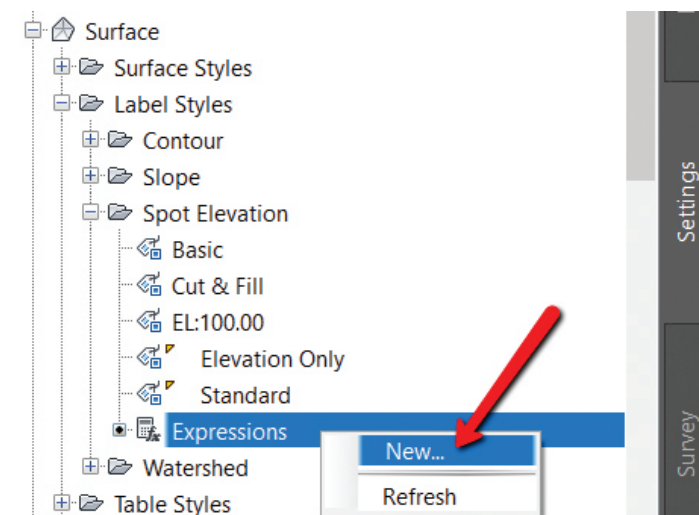

Figure 2
2. Right-click on Expressions and select NEW (Figure 2).